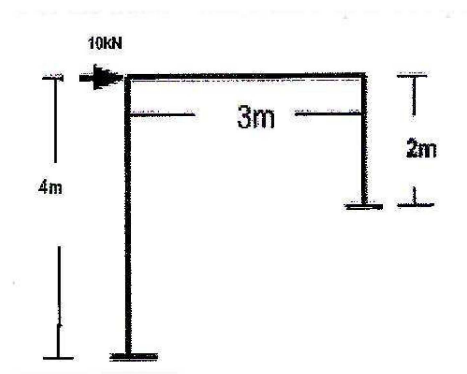

Fig. 8(b)
- (b) The frame loaded with a point load of 10 kN is as shown in Fig. 8(b). Determine the values of plastic moment of the frame when loaded up to collapse. [9]